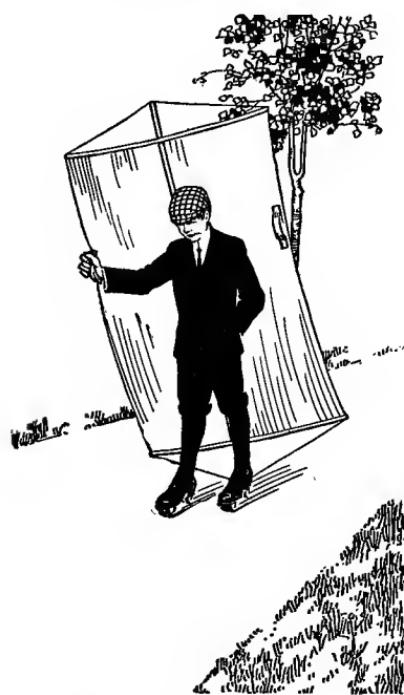

FIG. 576. — Sailing with a Square Roller-Skate Sail.
Figure 576 shows a boy using a square-shaped sail, and Fig. 580 shows a triangular-shaped sail. The former has a larger area, and the latter is the easier to handle on this account.
**The Method of Holding the Sail** when the wind is from in back of you is shown in Fig. 576. The left hand grasps